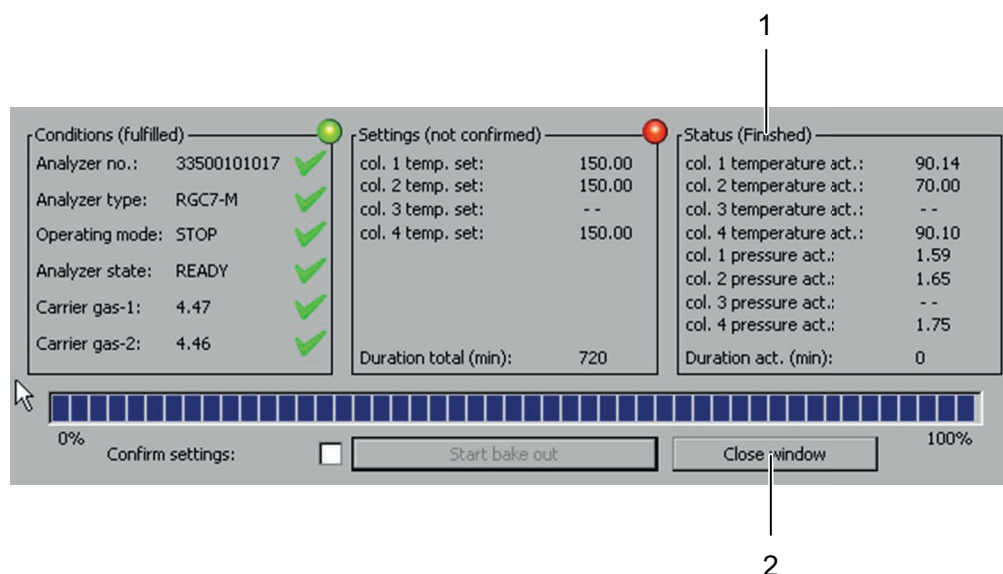

Fig. 42: Menu Bake-out – Cool-down process complete
- Once cool-down is complete (cf. fig. 42, no. 1), the menu can be exited by pressing the Exit window button (fig. 42, no. 2). This is the same regardless of whether the bake-out procedure was cancelled prematurely or completed in full.